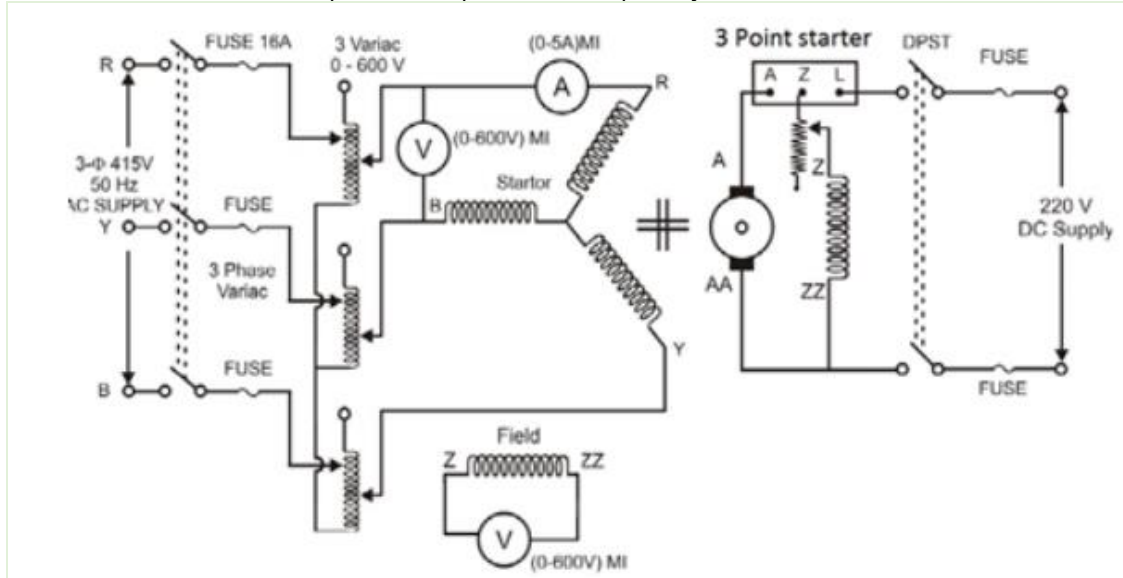

Figure 11 - SLIP TEST ON THREE PHASE SALIENT POLE SYNCHRONOUS MOTOR
1. Calculate the direct axis reactance (X_d) by calculating min voltage and max current from Figure 11